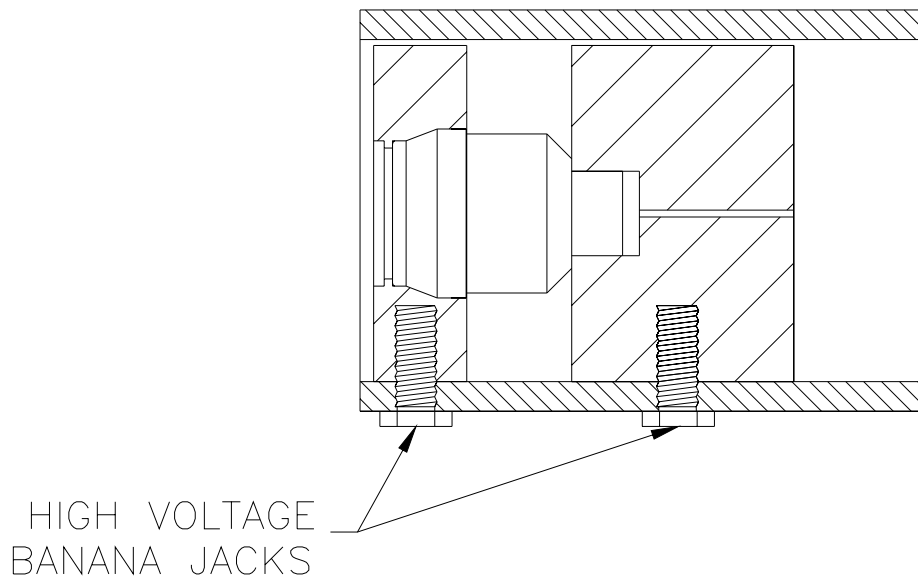

Fig 4. Completed Module Assembly Cross Section
8. Slide the completed lamp and heat sink assembly into the plastic housing such that the window/cathode side is aligned with the terminal opening closest to the housing edge. See Figure 4.